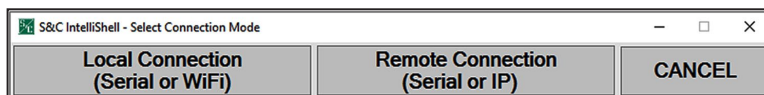

Figure 4. The S&C IntelliShell—Select Connection Mode dialog box.
- STEP 2.** Select the **Local Connection** option in the S&C IntelliShell—Select Connection Mode dialog box. See Figure 4.